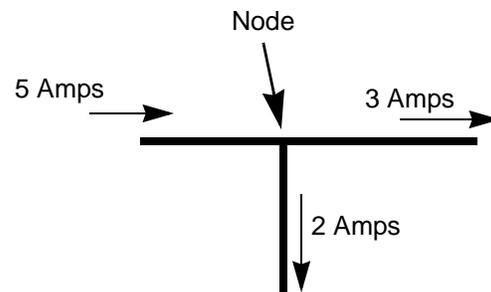

Figure 7.46
- The sum of the currents coming out of the other two wires must equal 5 amps. That could be 3 amps in one wire and 2 amps in the other or it could be 2.5 amps in each wire, but the total coming out must be the same as the current going in. See Figure 7.46.